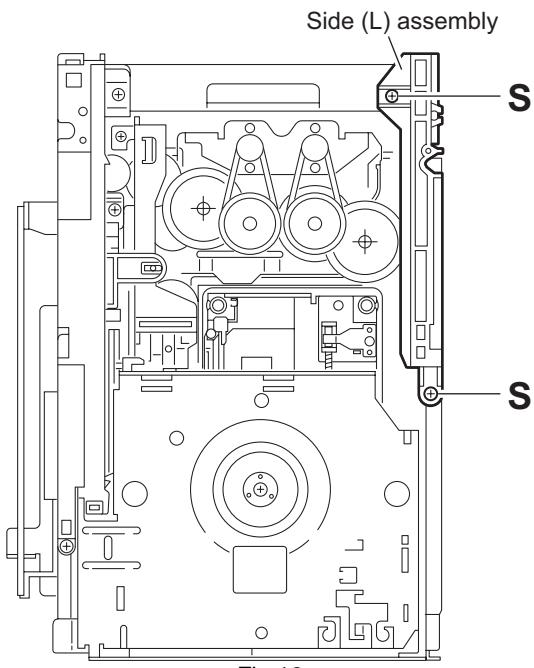

Fig.19
### 3.2.11 Removing the side (L) assembly and tray switch board (See Figs.19 to 21)
- From the topside of the DVD changer mechanism assembly, remove the two screws **S** attaching the side (L) assembly. (See Fig.19.)